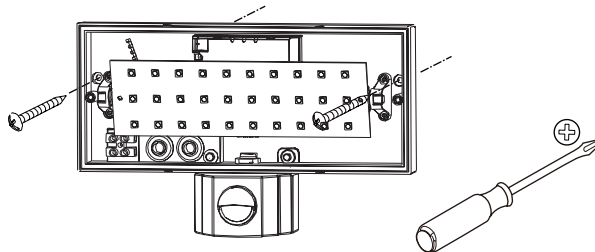

Fig.4a
- Step4 If it is a wooden wall, there is no need to use plastic expansion, just drive the screw with the screwdriver.(Fig.4a)